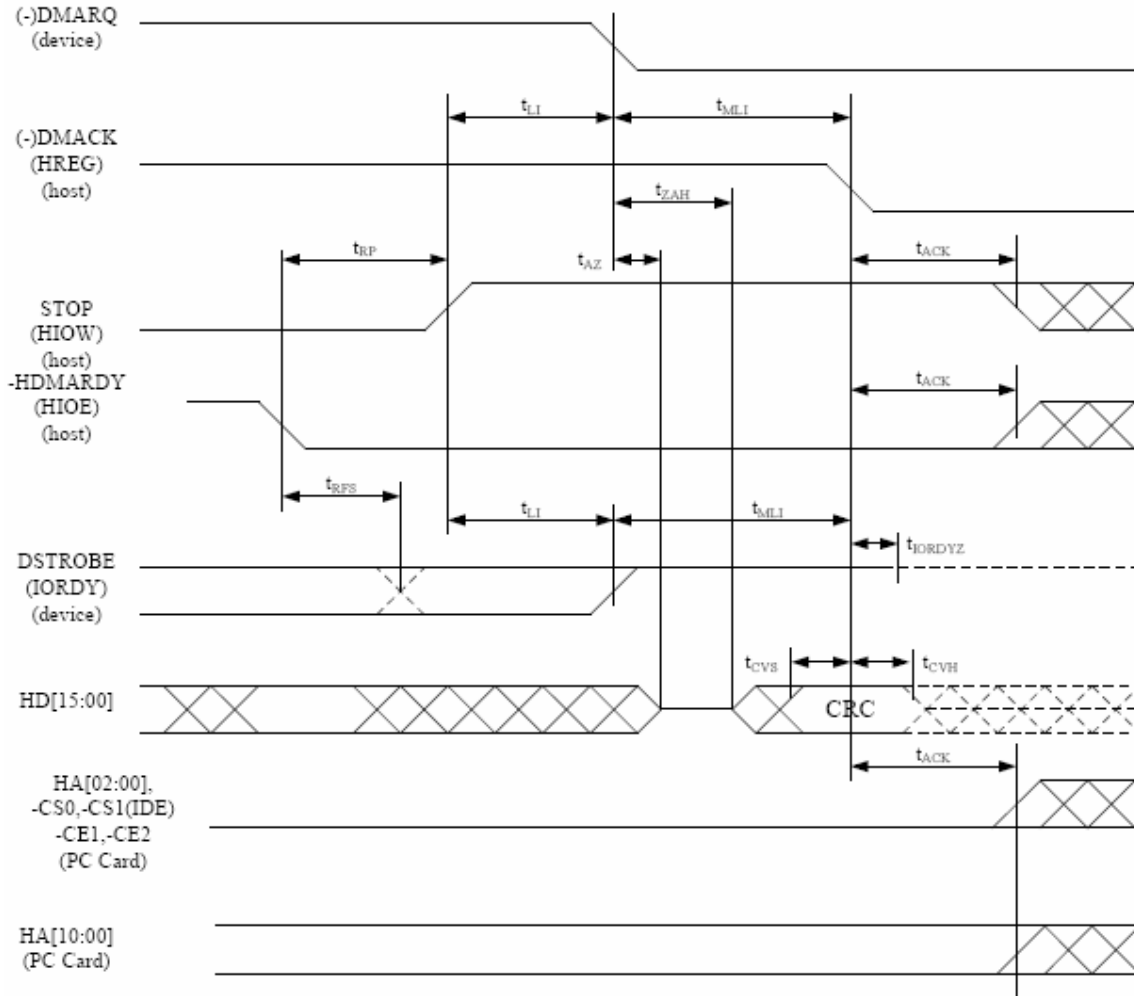
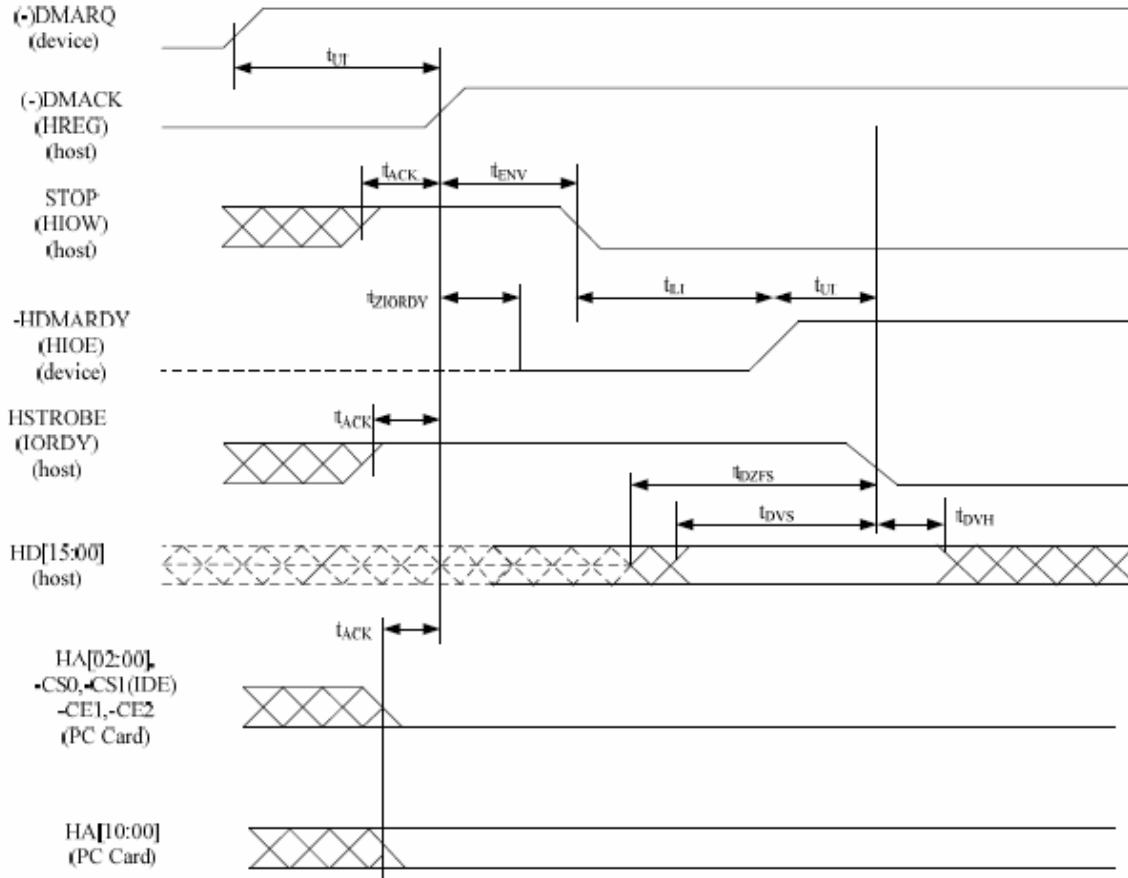

**Figure 16: Ultra DMA Data-In Burst Device Termination Timing Diagram**
**Figure 17: Ultra DMA Data-In Burst Host Termination Timing Diagram**
- (1) The parameters tUI, tMLI (in Figure 16: Ultra DMA Data-In Burst Device Termination Timing and Figure 17: Ultra DMA Data-In Burst Host Termination Timing), and tLI indicate sender-to-recipient or recipient-to-sender interlocks, i.e., one agent (either sender or recipient) is waiting for the other agent to respond with a signal before proceeding. tUI is an unlimited interlock that has no maximum time value. tMLI is a limited time-out that has a defined minimum. tLI is a limited time-out that has a defined maximum.
- (2) 80-conductor cabling shall be required in order to meet setup (tDS, tCS) and hold (tDH, tCH) times in modes greater than 2.
- (3) Timing for tDVS, tDVH, tCVS and tCVH shall be met for lumped capacitive loads of 15 and 40 pF at the connector where the Data and STROBE signals have the same capacitive load value. Due to reflections on the cable, these timing measurements are not valid in a normally functioning system.
- (4) For all timing modes the parameter tZIORDY may be greater than tENV due to the fact that the host has a pull-up on IORDY- giving it a known state when released.
- (5) The parameters tDS, and tDH for mode 5 are defined for a recipient at the end of the cable only in a configuration with a single device located at the end of the cable. This could result in the minimum values for tDS and tDH for mode 5 at the middle connector being 3.0 and 3.9 ns respectively.